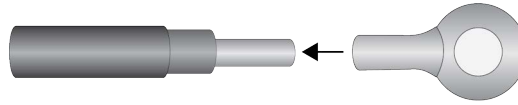

Figure 32. Sliding the Ring Terminal Lug on the Grounding Wire
3. Slide the ring terminal lug over the stripped wire on the grounding wire. Refer to Figure 32.